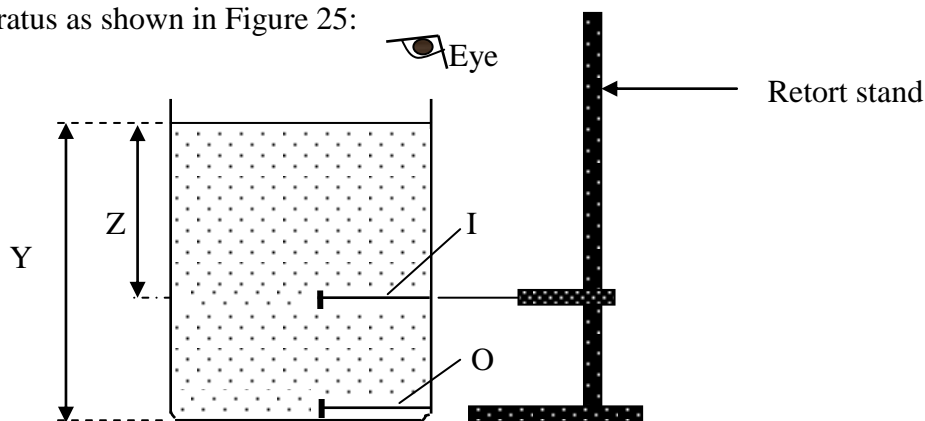

Figure 25
- (a) Set up the apparatus as shown in Figure 25:
- (c) Clamp the pin fixed onto the cork (search pin) as shown in Figure 25. Move the search pin up and down along the edge of the measuring cylinder until there is no parallax between the search pin and the image of the pin at the bottom of the cylinder. Locate the image position and measure its depth Z from the surface of the liquid. Also, measure the depth Y of the liquid from its free surface to the object pin.